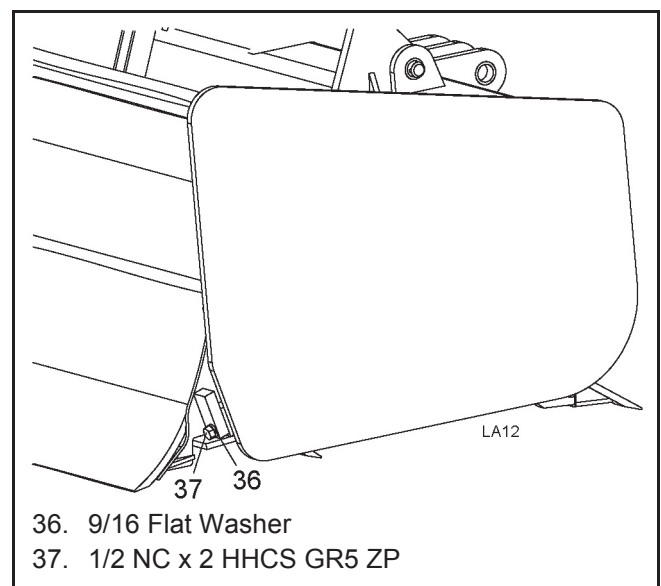

Figure 2. Tailgate Use (4 x 2 models)
The tailgate on 4 x 2 models can be used in two configurations. For finish grading, remove bolts (37) securing tailgate to box blade, Figure 2.